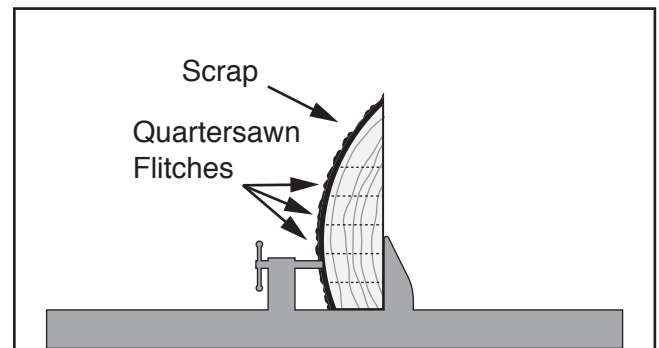

Figure 55. Quartersawn flitches to be cut from slabs.
21. Cut slab where quartersawn quality wood begins, then continue to cut flitches from top to bottom until slab is fully used (see **Figure 55**).